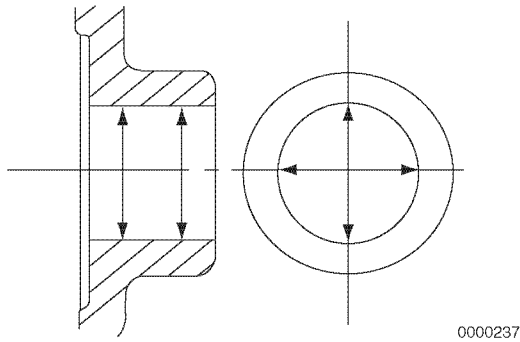

Figure 6-112
6. Measure the diameter of the wrist pin bore on both sides of the piston (**Figure 6-112**). See *Piston on page 6-16 for specifications*. Record the measurements.